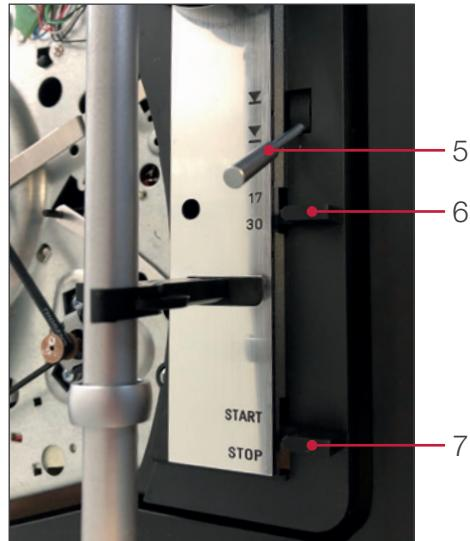

Fig. 8
The lift lever (5) must be in position **UP**. Move the knob (7) into position **Start** and the tone arm will be automatically lowered onto the record (Fig. 8)